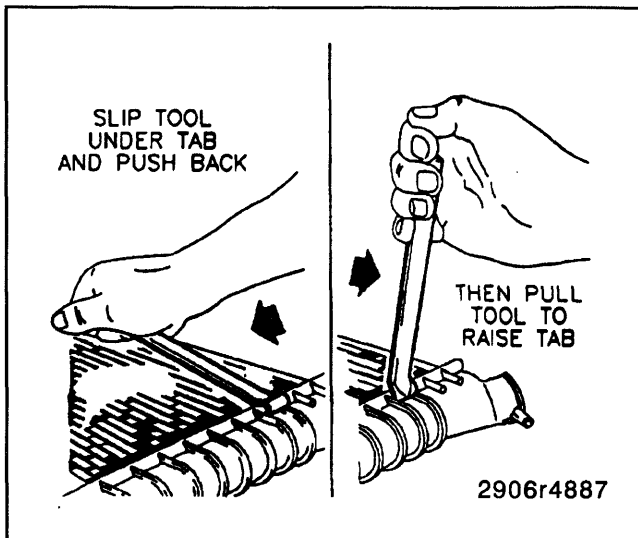
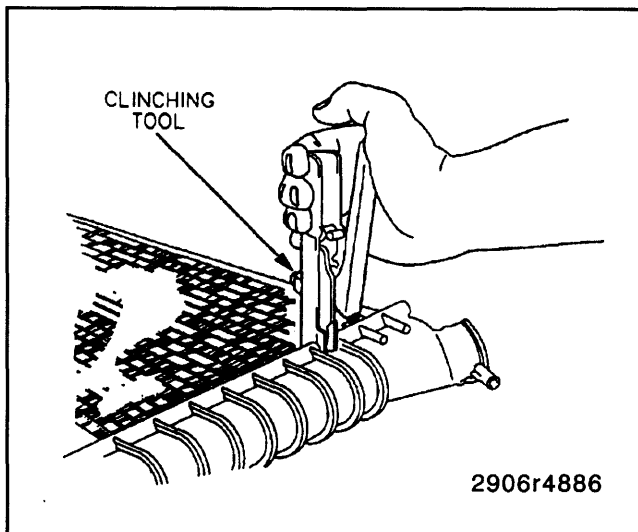

Figure 24—Opening the Clinch Tabs
Figure 25—Opening the Clinch Tabs
1. Pry open the clinch tabs, except those under the inlet, outlet, and filler necks, using BT 8260 Radiator Core Remover/Installer (figure 24) or a screwdriver (figure 25). Lift the tabs only enough to allow removal.